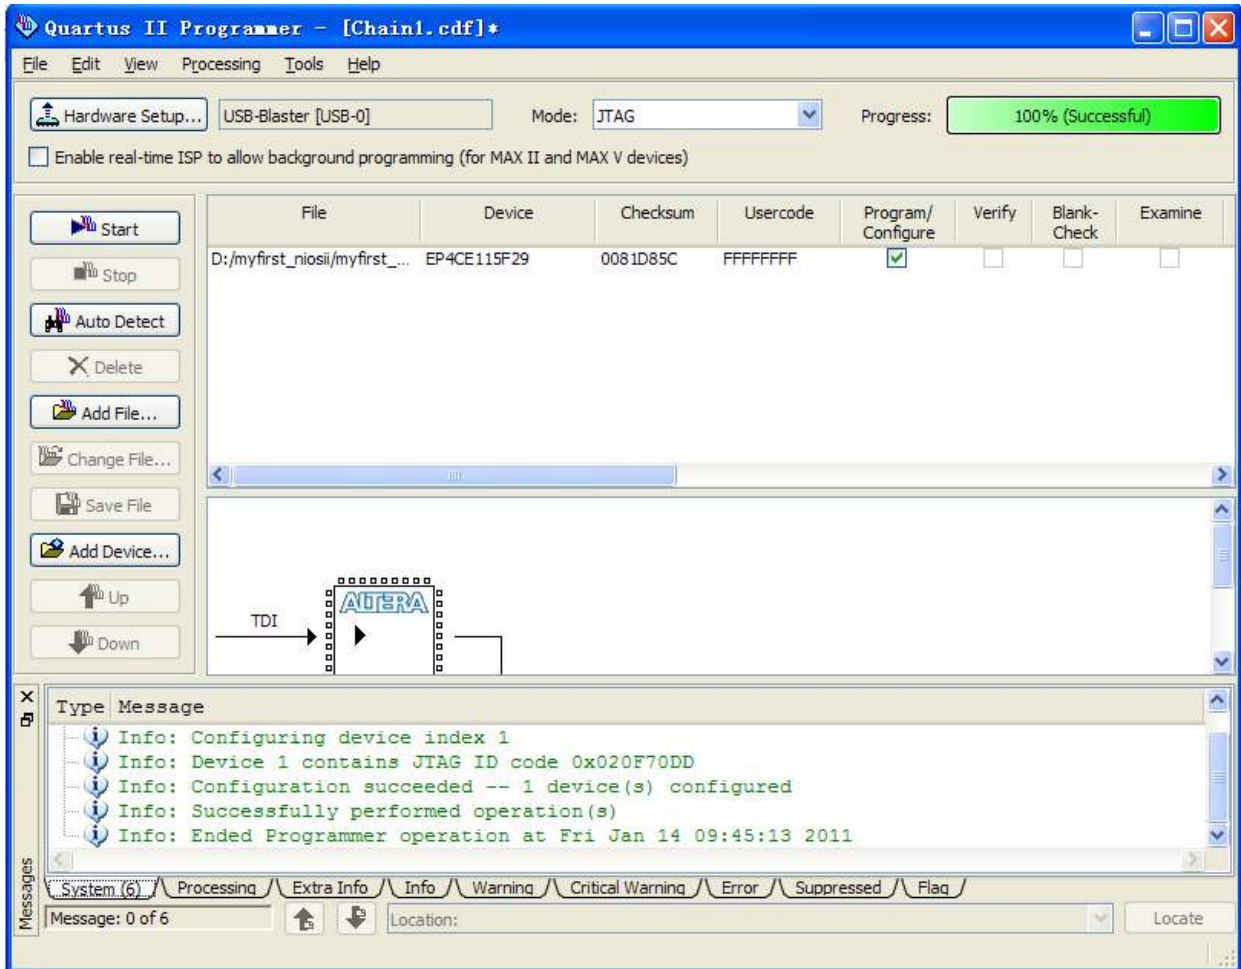

Figure 7-54 Quartus II Programmer
14. Make sure the **Program/Configure** option for the programming file (see **Figure 7-54** for an example).